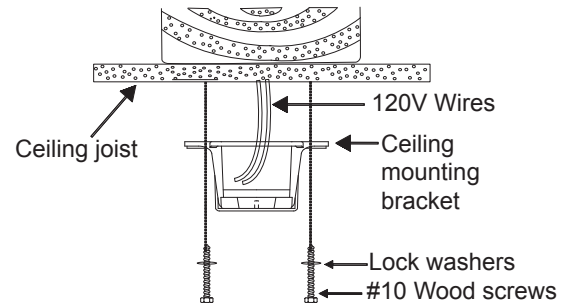

Fig. 7
Step 4A. Secure the mounting bracket directly to a joist from the building structure. Use only the appropriate wood screws and lock washers included with your fan. (Fig. 7)
CAUTION: The hanger bracket must be installed directly to the building joist using the two wood screws and lock washers. (Fig. 7)